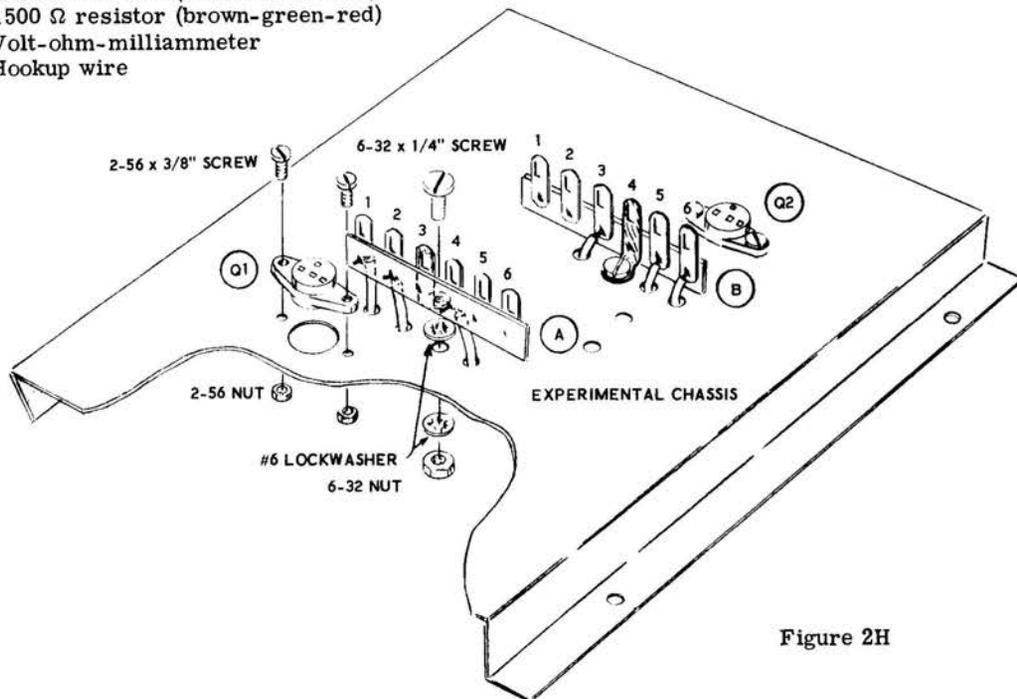

Figure 2H
Refer to Figure 2H for the following steps.
- () Fasten the two 6-lug terminal strips to the experimental chassis as they are shown in Figure 2H, using 6-32 x 1/4" screws, #6 lockwashers, and 6-32 nuts. Be sure the chassis faces in the direction shown in Figure 2H.
- () Install transistor sockets Q1 and Q2 from above the chassis, using 2-56 x 3/8" screws and 2-56 nuts. Be sure that the lugs of each transistor socket face as shown in Figure 2H.